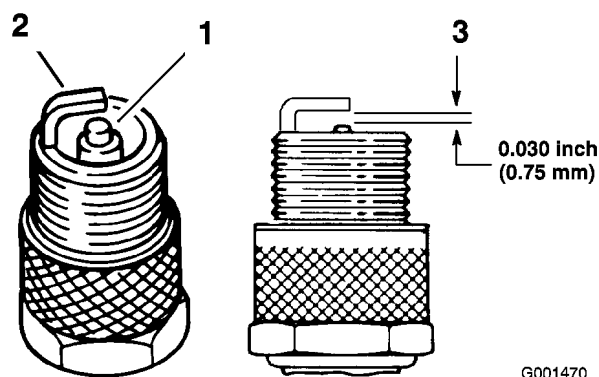

Figure 34
1. Look at the center of the spark plugs (Figure 34). If you see light brown or gray on the insulator, the engine is operating properly. A black coating on the insulator usually means that the air cleaner is dirty.
3. Check the gap between the center and side electrodes (Figure 34). Bend the side electrode (Figure 34) if the gap is not correct.
3. Connect the wires to the spark plugs (Figure 34).